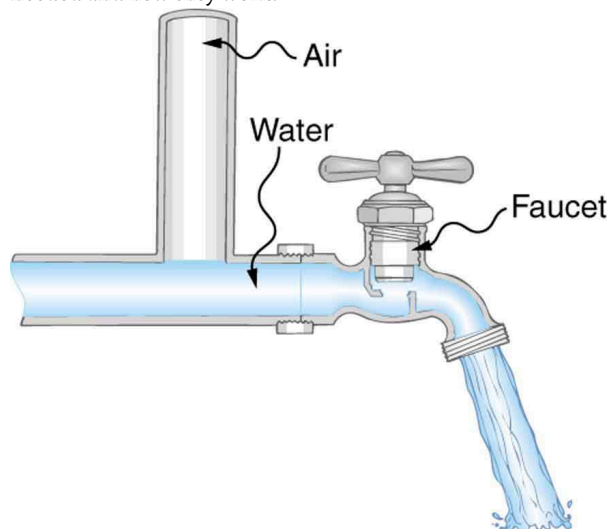

Figure 12.27 The vertical tube near the water tap remains full of air and serves a useful purpose.
25. Plumbing usually includes air-filled tubes near water faucets, as shown in Figure 12.27. Explain why they are needed and how they work.